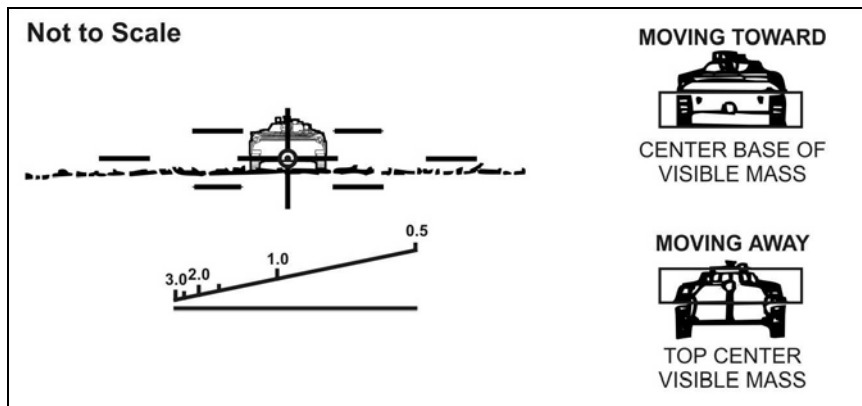

Figure 6-29. Target moving toward or away from Bradley position.
(3) When engaging targets moving toward or away from the position, the gunner may need to make small vertical adjustments (Figure 6-29). When the target is approaching, he aims at the center base of mass. When the target is moving away, he aims at the top center mass. As the range changes, the gunner must carefully adjust this aim point.